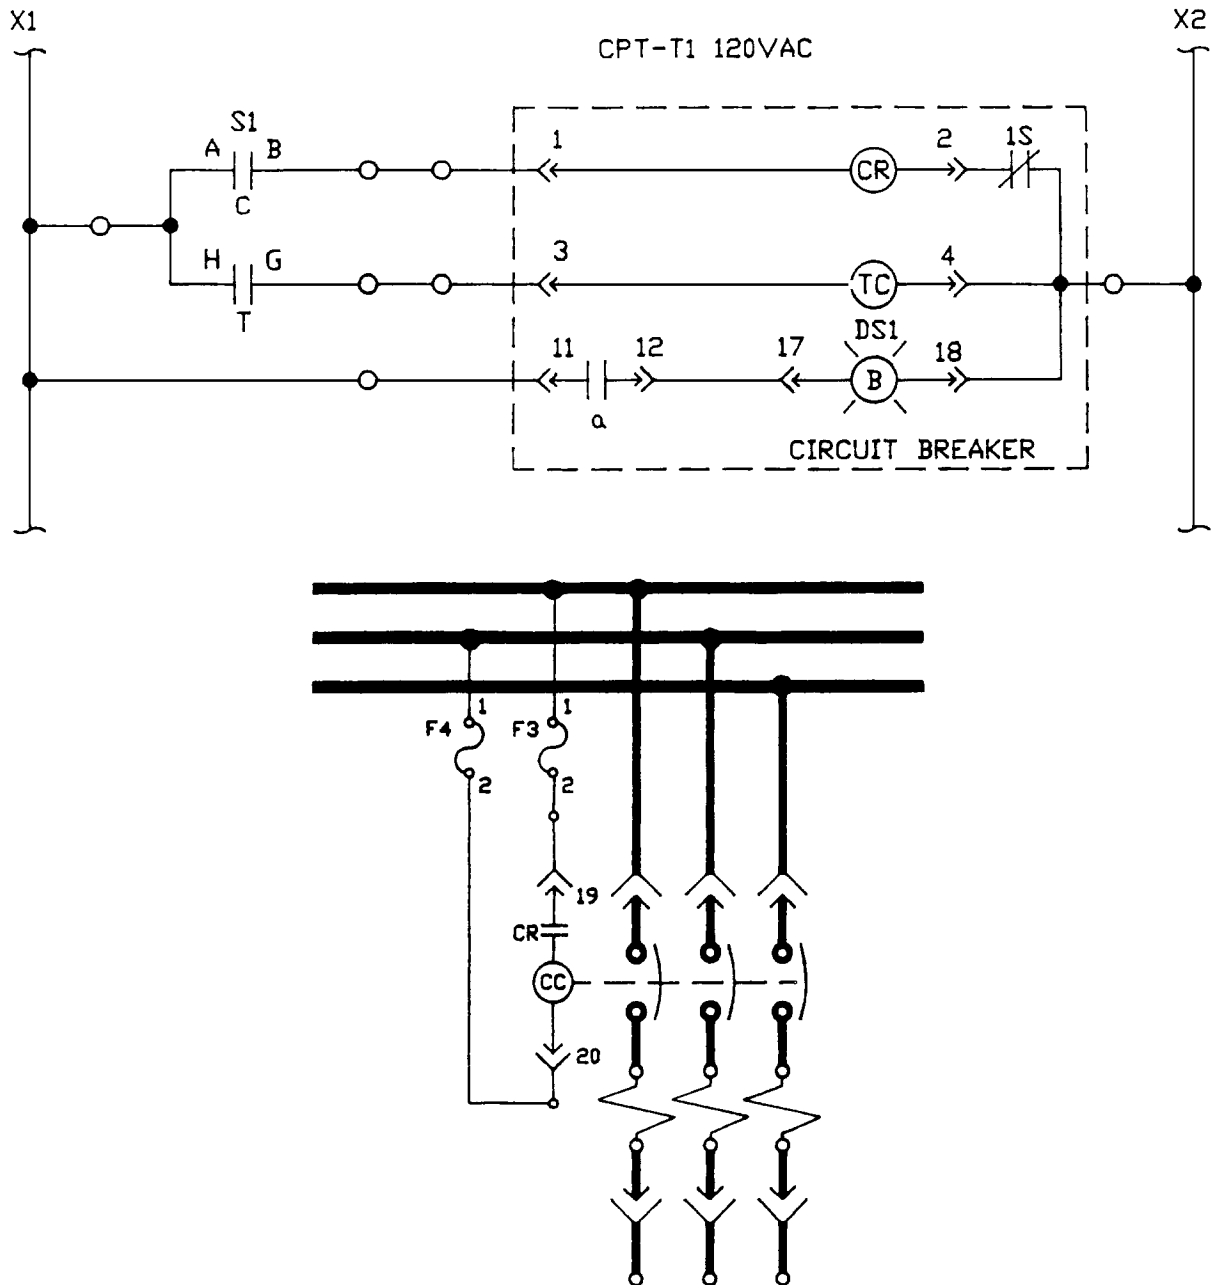

Figure 3-4. Circuit Breaker Closure
3-7.1.1 Closing Circuit Breaker. As shown in figure 3-4, 115 VAC power is available at S1. Upon the momentary rotation of S1 to the CLOSE (C) position, A and B contacts (N.O.) close and energize the closing relay (CR). Contact 1S (N.O.) is closed via the circuit breaker mechanical interlock. This interlock prevents closure when the removable element of the circuit breaker has been removed. This allows CR to energize the closing coil (CC) of the circuit breaker. The circuit breaker closes thus closing the auxiliary contact “a” and illuminating DS1.